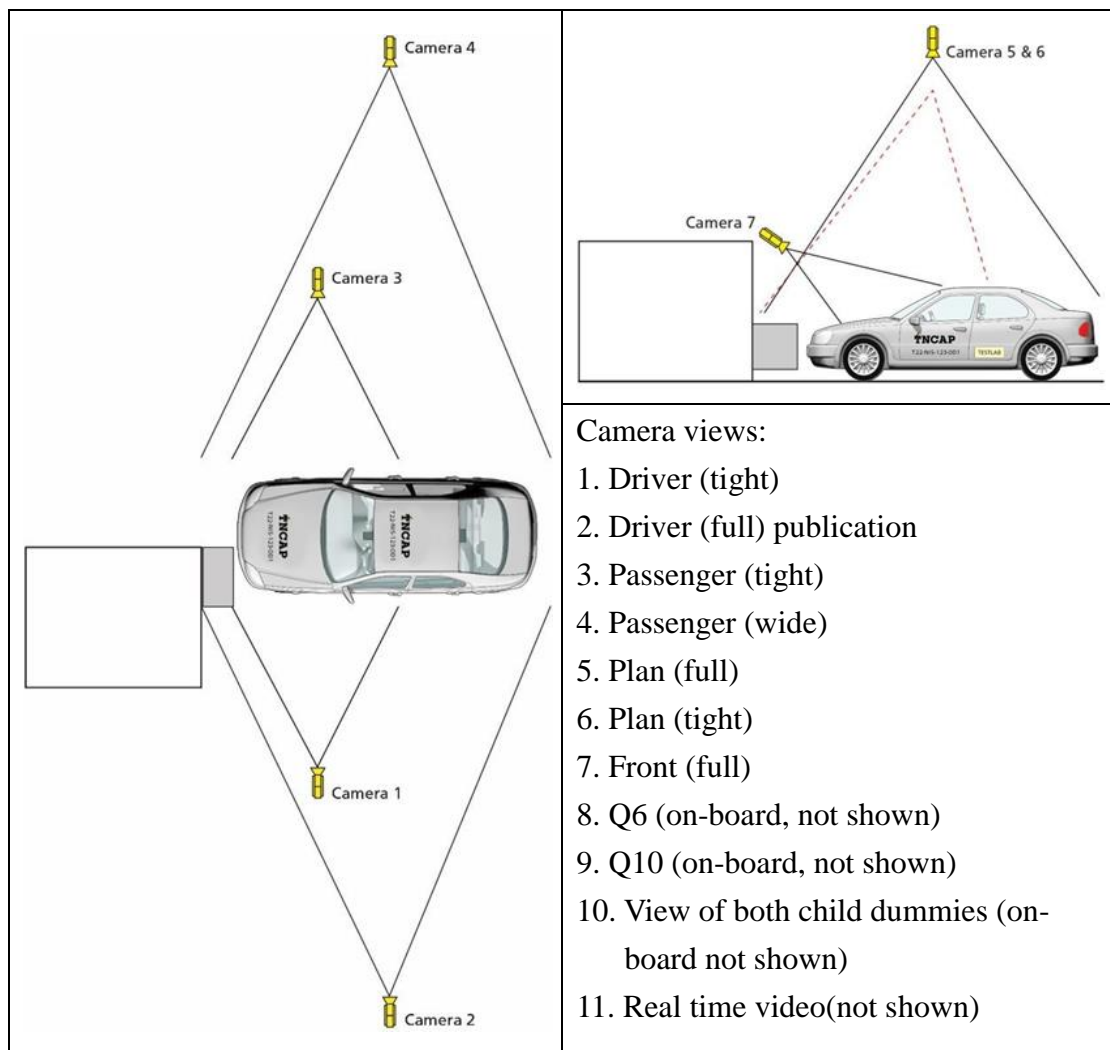

Figure 3: Locations for Cameras 1 to 7 (Frontal Offset Deformable Barrier)
A minimum of 7 cameras shall be installed around the test vehicle, positioned as indicated in Figure 3 below. Three (3) additional on-board cameras for child and driver dummy views are to be used. A separate camera (not listed) must record the crash in real time.